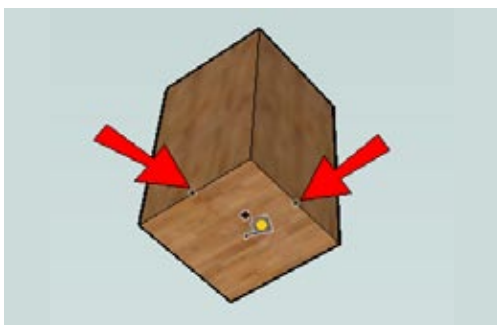

Figure 4-33
2. Because the rest of the table leg will be created relative to the center of this box, you need to mark the center with a construction line. Activate Tape Measure and start the construction line on the bottom of the box, where the red and green directions meet from adjacent midpoints (Figure 4-33).